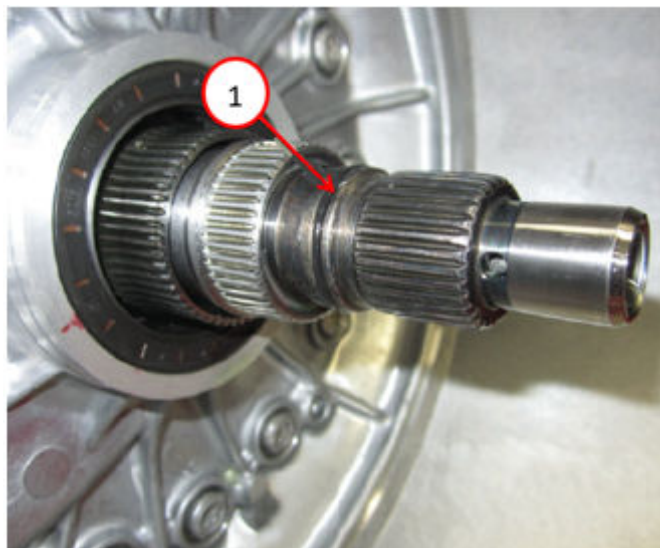

Fig. 38
58. Install a NEW transmission oil pump assembly to case bolts Fig. 38.